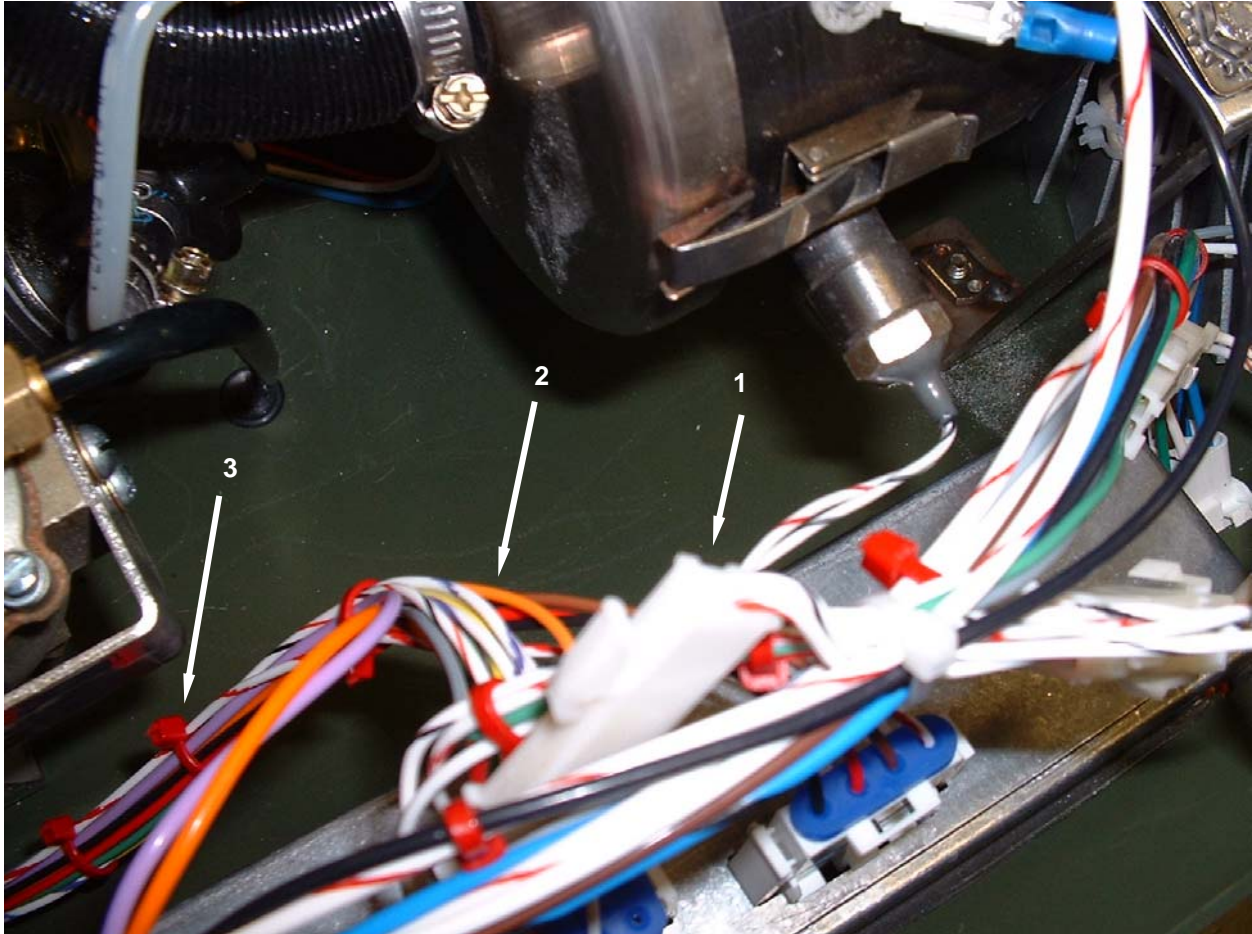

Figure 1. Wire Harness.
2. Inspect the wires (**Figure 1, Item 2**) for any cuts or abrasions to the insulation that would expose bare wire. Repair any breaks or abrasions as detailed below.
3. Inspect the tie wraps (**Figure 1, Item 3**) and ensure that none are broken or cut. Replace any tie wraps that are damaged.
1. Repair any cuts or abrasions on the wires (**Figure 1, Item 2**) with electrical tape, wrapping each repaired area with at least two layers of tape. Refer to WP 0040 00 for additional wire repair instructions as needed.
2. Repair tie wraps (**Figure 1, Item 3**) by removing any broken pieces and installing a new tie wrap.